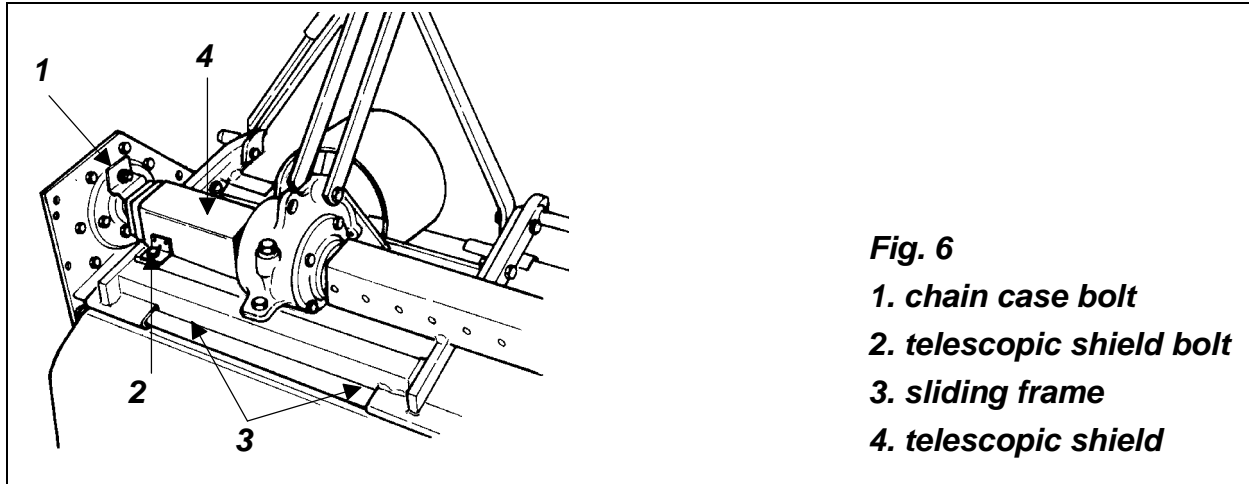

Fig. 6
10. The hexagonal drive shaft is protected by a telescopic sliding shield (see #4, fig. 6 & 7). To attach this shield do the following: bolt the upright tab to the chain case side plate (see #1, fig. 6); open the telescopic shield and bolt the outer cover (see #2,